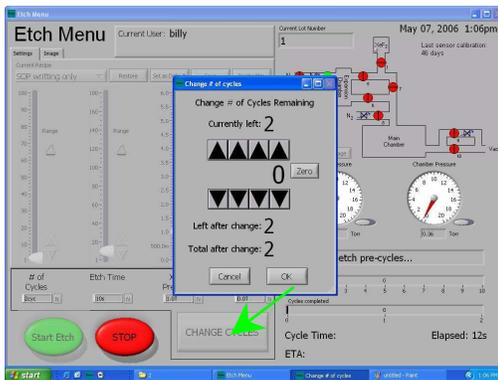

Figure 2.22
16. Changes to the number of etch cycles is possible while the sample is etching by using the “CHANGE CYCLE” button. (Figure 2.22)